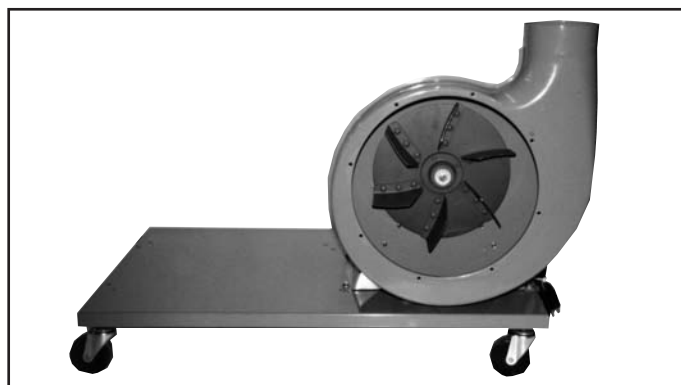

FIGURE 2
2. Place base with rollers on the ground and attach the motor and fan assembly to the base using 4 hex. bolts and 4 flat washers. (Fig.2)